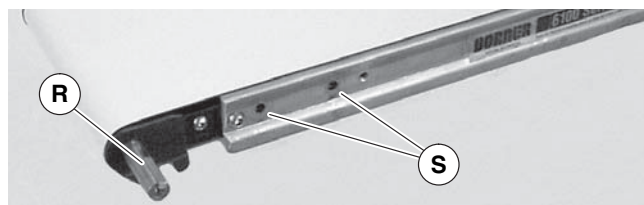

Figure 9
3. Locate drive output shaft (Figure 9, item R) and remove two screws (S).